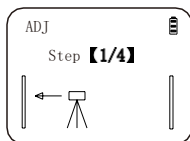
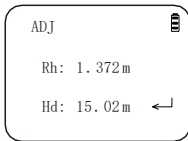

Fig 23
Fig 24
- (3) When you see figure 23, measure Staff A. After data showed up as figure24, press SET to the next step.
- (4) Rotate instrument to point Staff